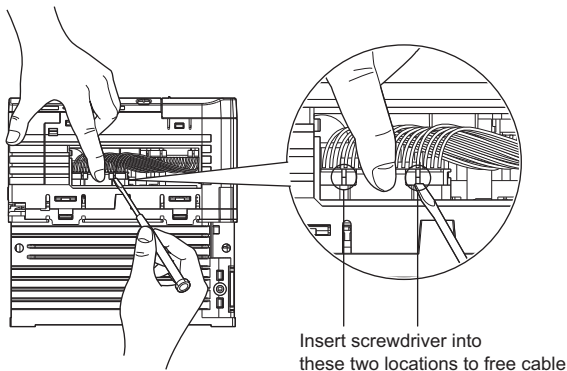

Figure 9 Unplugging the Drive Cable Connection (PS-V10S)
1. Unplug one end of the existing drive cable from its socket inside the drive as shown in *Figure 9*. Press inward on the cable release tab in the center of the cable connector and use a flat-blade screwdriver to gently pry up to remove the connector from its socket.